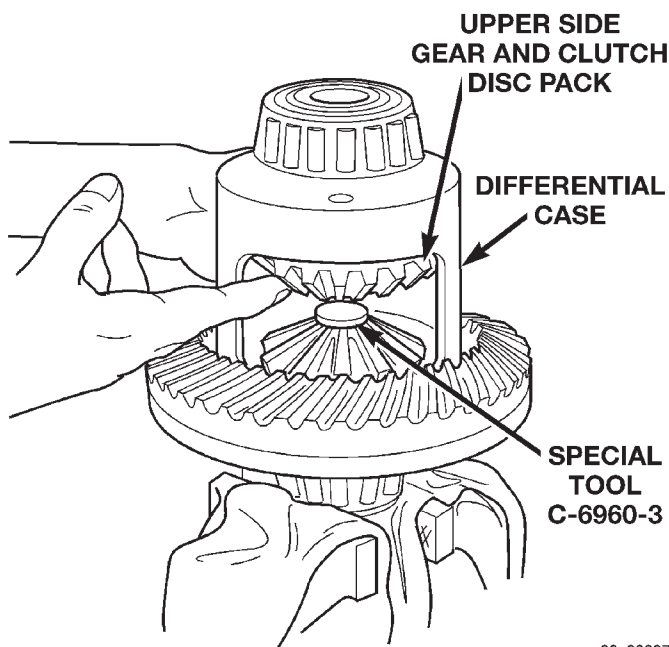

Fig. 63 Upper Side Gear & Clutch Disc Pack Installation
(4) Position the differential case on Side Gear Holding Tool 6965.
(5) Install lubricated Step Plate C-6960-3 in lower side gear (Fig. 63).
(6) Install the upper side gear and clutch disc pack (Fig. 63).
(7) Hold assembly in position. Insert Threaded Adapter C-6960-1 into top side gear.
(8) Insert Forcing Screw C-6960-4.
(9) Tighten forcing screw tool to slightly compress clutch discs.
(10) Place pinion gears in position in side gears and verify that the pinion mate shaft hole is aligned.
(11) Rotate case with Turning Bar C-6960-2 until the pinion mate shaft holes in pinion gears align with holes in case. It may be necessary to slightly